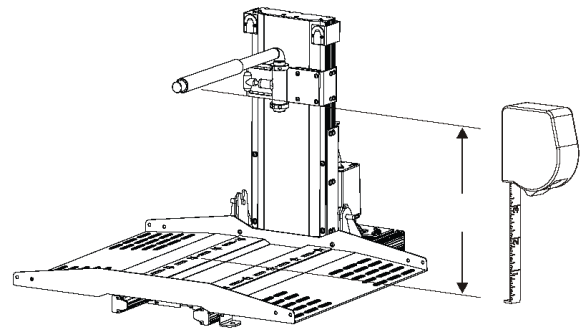

Figure 5-3
2. Measure the height of the hold-down arm from the platform. *See Figure 5-3.*